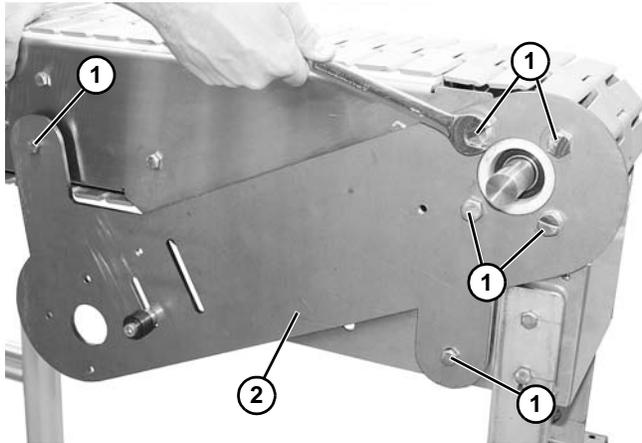

Figure 53
7. Remove mounting hardware (Figure 53, item 1) securing bottom mount plate (Figure 53, item 2) to conveyor. Remove plate and bearing housing.